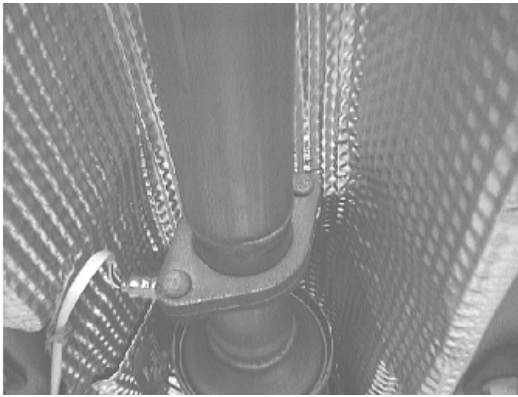

Figure 3
5. Unbolt the flange just rear of the catalytic converter shown in figure 3.